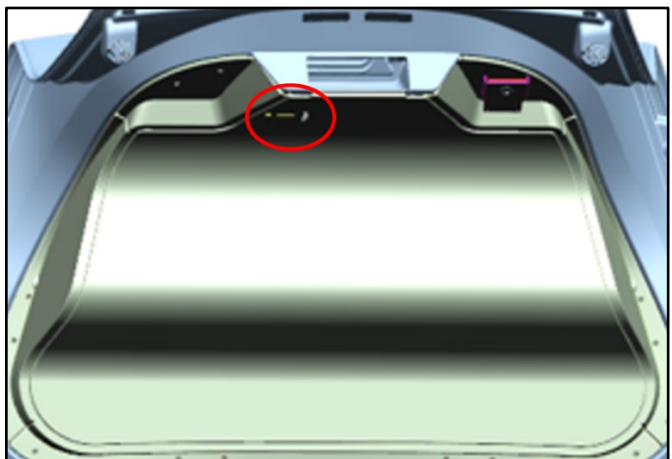

Figure 1
2. Remove the emergency release handle for the boot lid (refer to Figure 1).
11. Install the emergency release handle for the boot lid (refer to Figure 1).